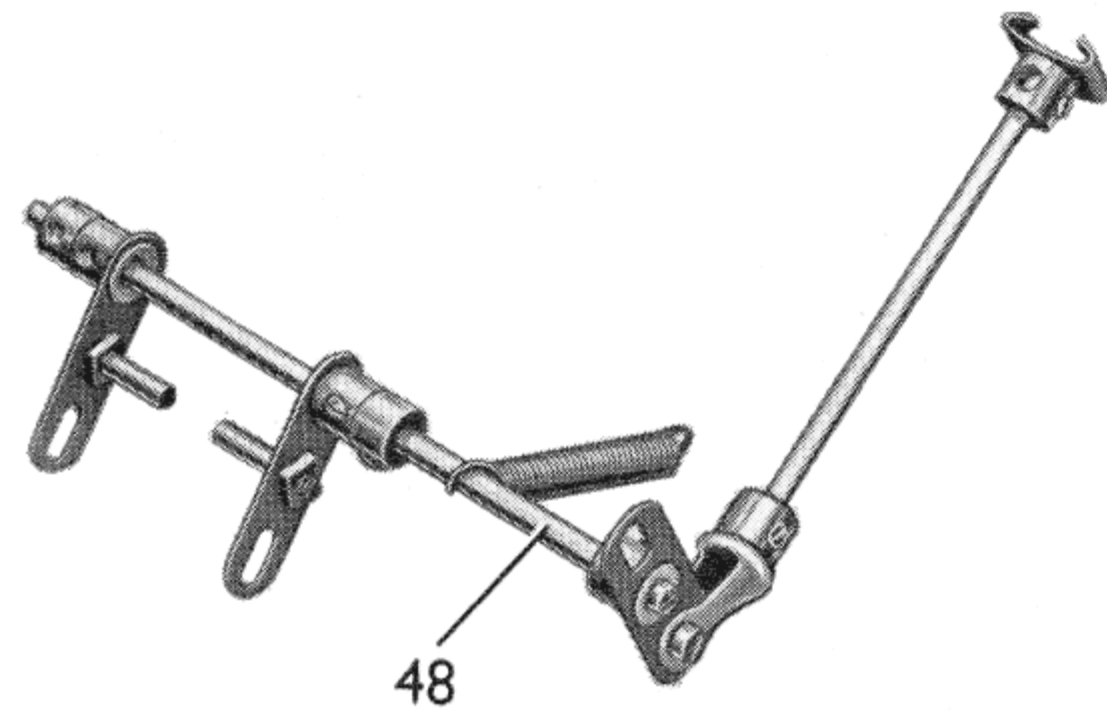

FIG. 8 The clutch pedal and release lever unit removed from the chassis
The clutch pedal is a Slide Piece on a 4" Rod that passes through an Obtuse Angle Bracket bolted to one of the $5\frac{1}{2}" \times 3\frac{1}{2}"$ Flat Plates of the chassis. The lower end of the Rod carries an End Bearing, and this pivots on a $\frac{3}{8}"$ Bolt passed through a Double Arm Crank on a 5" Rod (48) (Fig. 8). This Rod is held by Collars in Angle Brackets bolted to the Girders (18) of the engine unit, and it carries two Cranks fitted with Threaded Pins that engage the groove in the Socket Coupling (26).